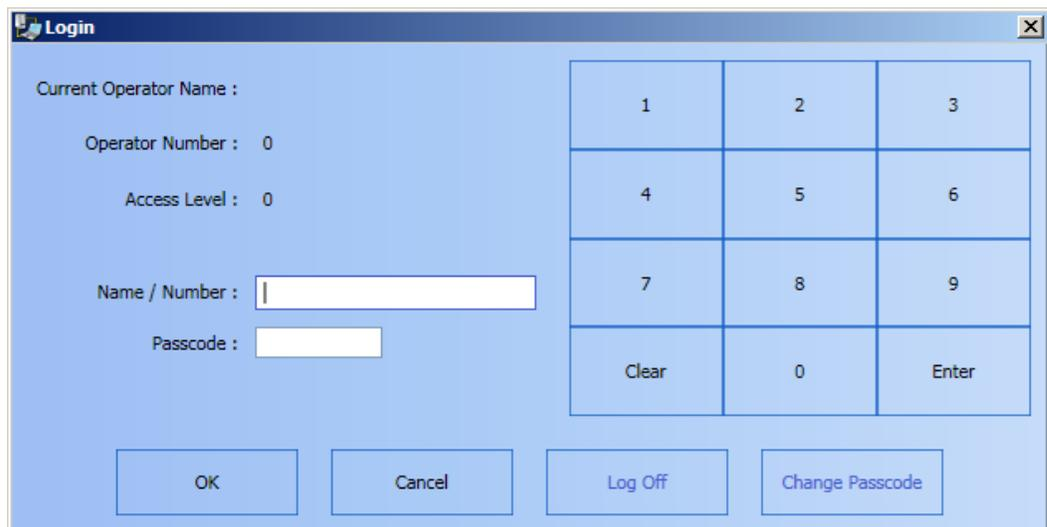

Figure 13-6 Login Dialog Box
Once the connection is established, the **Login** dialog box is automatically displayed (Figure 13-6).
1. In the **Login** dialog box (Figure 13-6) provide the following information: